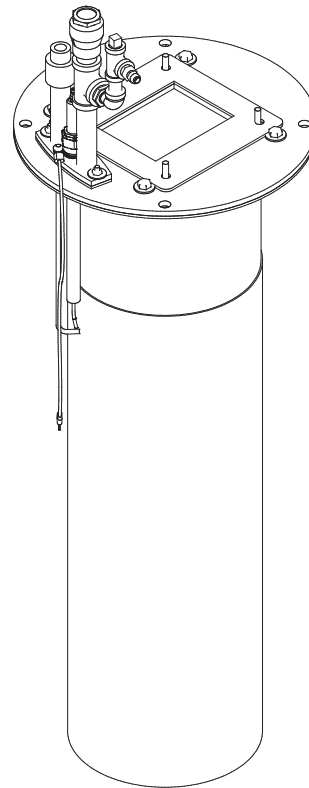

FIGURE 22 - BURNER WITH IGNITION ASSEMBLY MOUNTED
4. It is considered good practice to remove and inspect the burner and ignition assembly on an annual basis. Follow **Procedure for Removing/Cleaning Burner** in this manual if there is evidence of foreign matter built up on the burner or ignition assembly. See Figure 22.